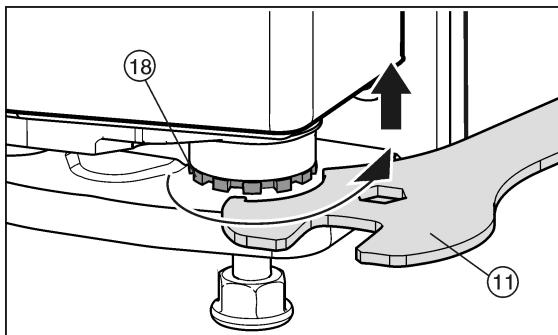

Fig. 30
- To lift the door unscrew the bearing pin *Fig. 30 (18)* clockwise using the supplied open-end wrench *Fig. 30 (11)*. The appliance is delivered from the factory with the bearing pin screwed in completely.